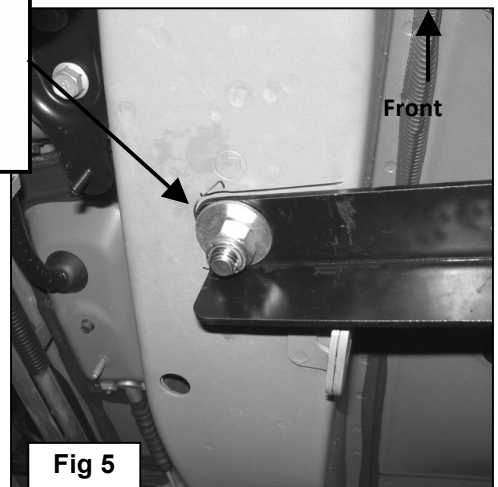
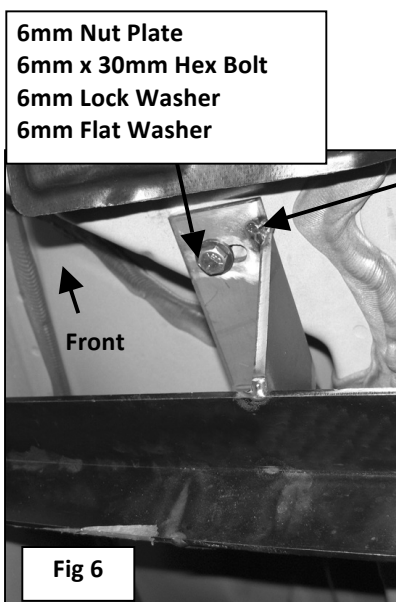

Fig 5
Fig 6
6. Select the driver side Front Mounting Bracket and hang it from the 12mm Bolt plate installed in **Step 4**. Secure the Bracket to the Bolt Plate with (1) 12mm Lock Washer, (1) 12mm Flat Washer and (1) 12mm Hex Nut, **(Figures 5 & 7)**. Attach the Mounting Bracket to the 6mm Nut Plate and secure it using (1) 6mm x 30mm Hex Bolt, (1) 6mm Lock Washer and (1) 6mm Flat Washer, **(Figures 6 & 7)**. Do not tighten hardware at this time.